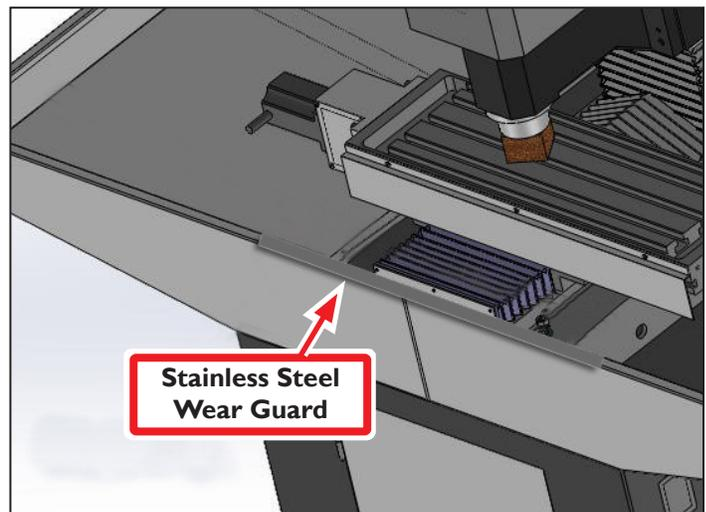

Figure 6
7. Using four M5 x 10 mm screws, attach Stainless Steel Wear Guard across front of chip pans (see **Figure 6**).